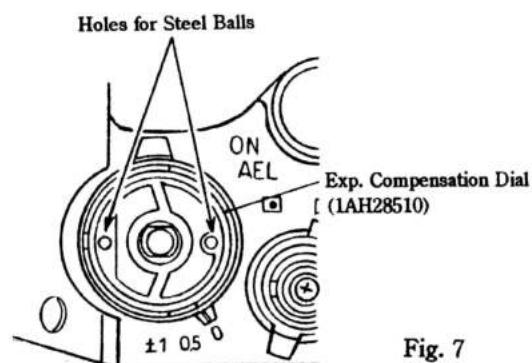

Fig. 7
2) Install the Exp. Compensation Dial (1AH 28510) in the position as shown in Fig. 7.